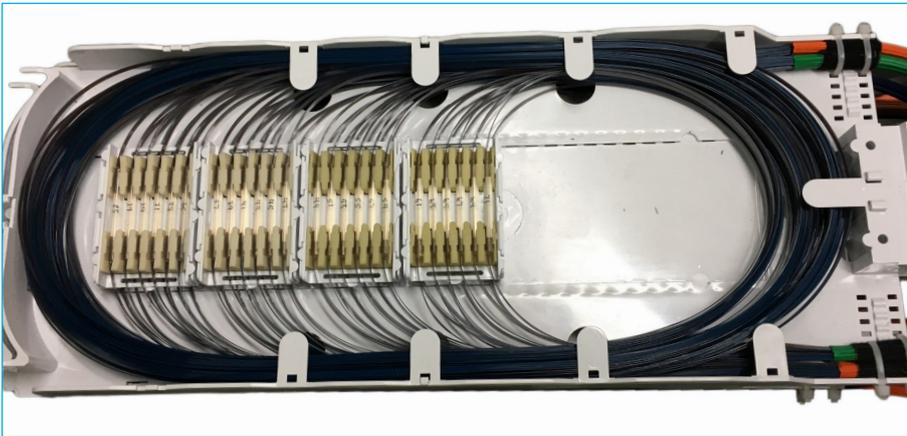

Figure 21
9.8 Double height trays are used to store flat matrix ribbon within the tray. Figures 21 and 22 show double height tray with splice capacity up to 576 fibers.